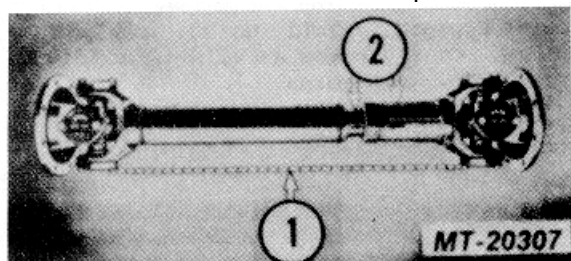

Fig. 18
2. ARROW MARKS - Make sure arrow marks are stamped on the shaft and sleeve yoke before removing the slip joint (Fig. 18). If arrow marks are not readily seen, mark both members so that when reassembled they will be in exactly the same relative position, since the sleeve yoke lugs must be in the same plane as the stub ball yokes to prevent excessive vibration.